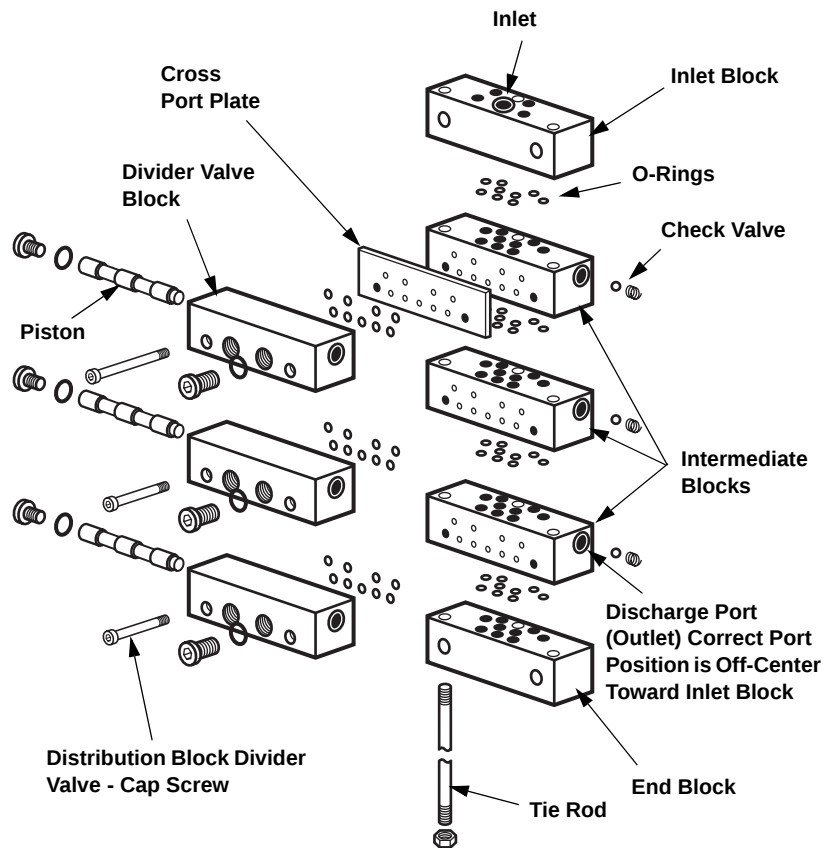

FIGURE 4-12 DIVIDER VALVES DISTRIBUTION BLOCK - TYPICAL
1. Screw three tie rods into inlet block until ends are flush with surface of block. Reference Figure 4-12 on page 4-34.